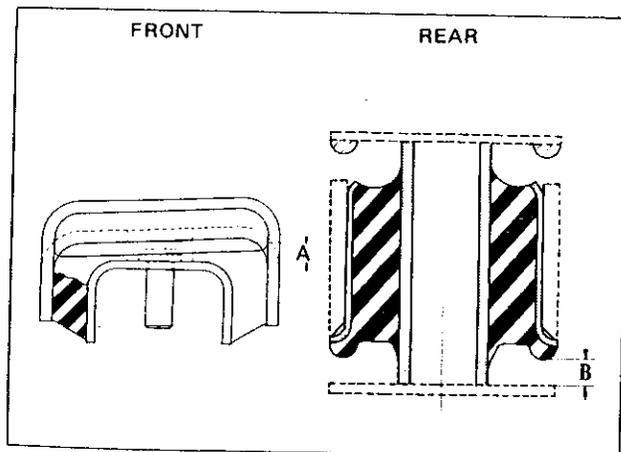

Fig. RA-7 Sectional view of the differential mount insulator
- Replace the differential mount front insulator with new one, if the dimension "A" (Figure RA-7) is 9 mm (0.3543 in) or greater or 2 mm (0.0787 in) or smaller. (unloaded)
- Replace the differential mount rear insulator with new one, if the dimension "B" (Figure RA-7) is less than 5 mm (0.1969 in). (unloaded)